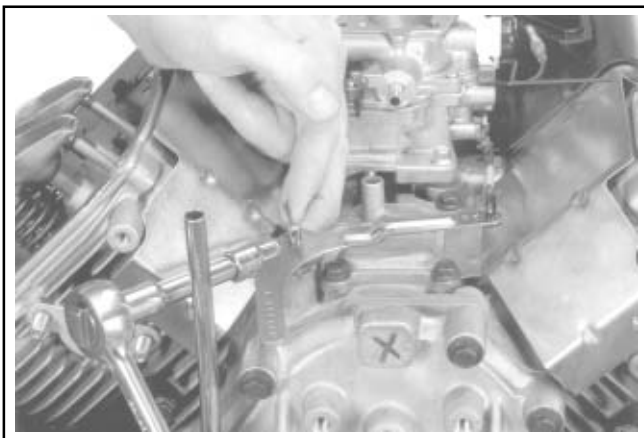

Figure 11-79. Holding and Tightening Governor Arm.
4. Insert a nail into the hole on the cross shaft and rotate the shaft **counterclockwise** as far as it will turn, then torque the hex. nut to **6.8 N·m (60 in. lb.)**. See Figure 11-79.